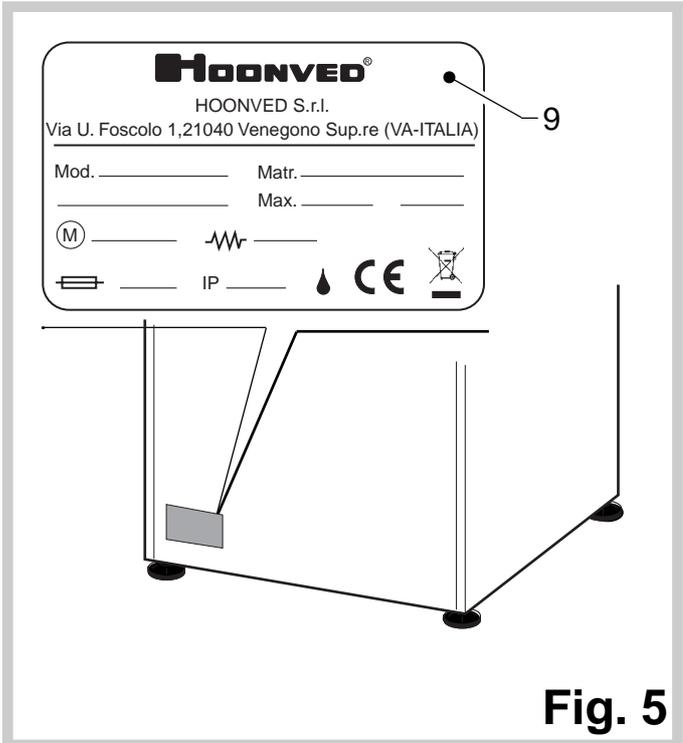
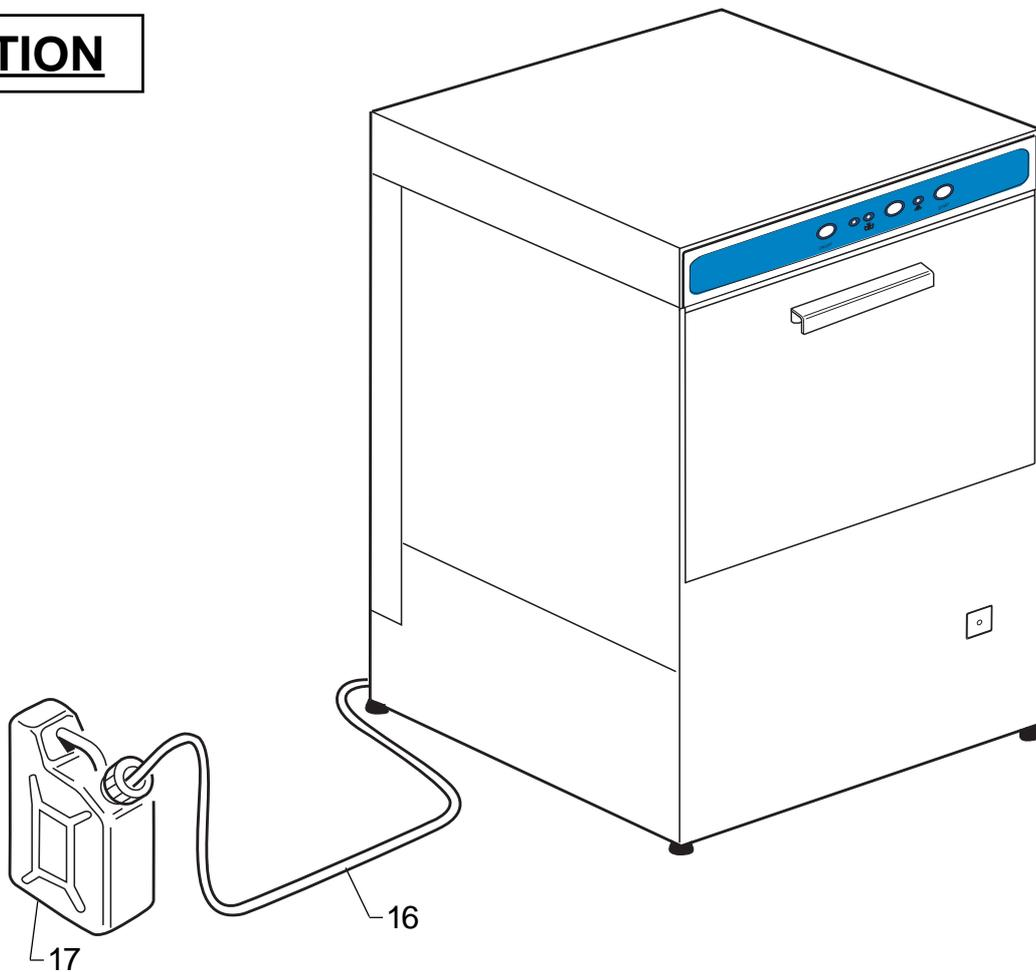

Fig. 5
Fig. 8
- **Before connecting to the electricity main, always check that the data pertaining to the power source correspond to those indicated on the identification plate (pos. 9 Fig. 5) and that the main electric power switch installed prior to the machine is disconnected "0" OFF.**
- Connect the electrical power cable (14) to the main switch installed prior to the machine.
- Connect the equipotential ground conductor to the terminal (15).
3.2 DETERGENT DISPENSER (option) (Fig. 8)